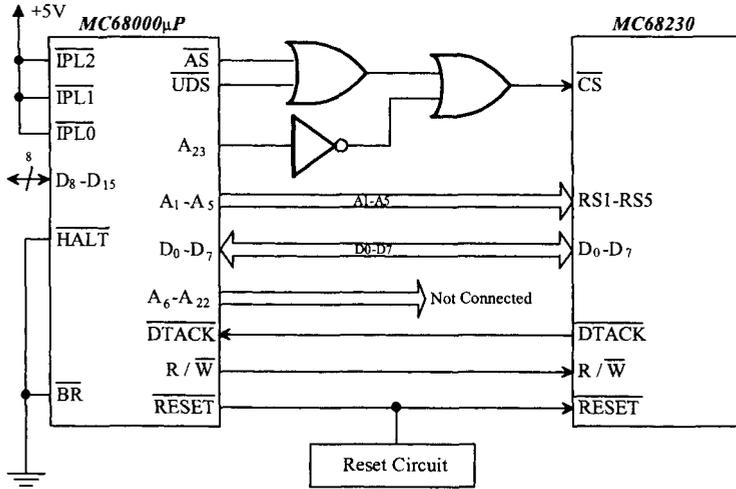

FIGURE P10.40
10.40 Will the circuit in Figure P10.40 work? If so, determine the I/O port addresses for POCR, PADR, PADDR, PBDR, PBDDR, PCDR and PCDDR. If not, comment briefly, modify the circuit, and then determine the port addresses. Use only the pins and the signals shown. Assume all don't cares to be zeros.